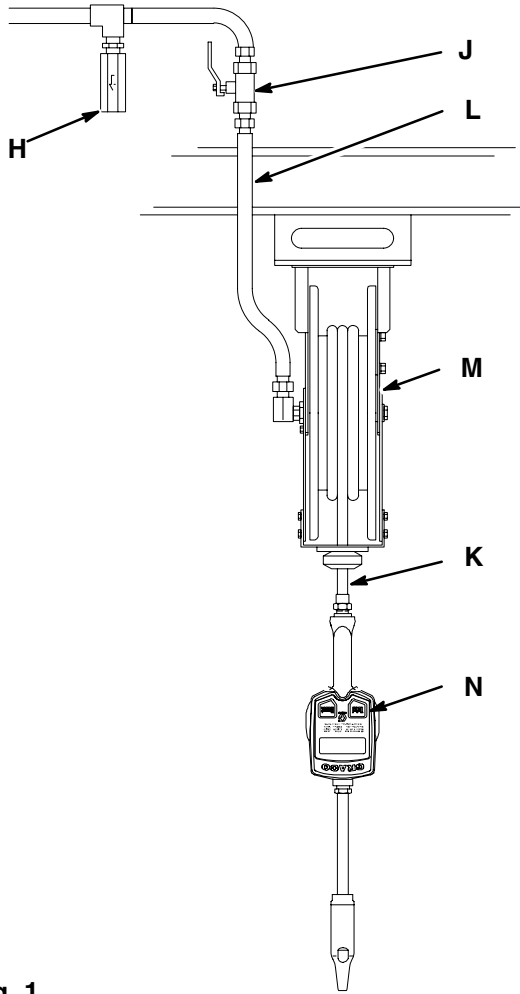
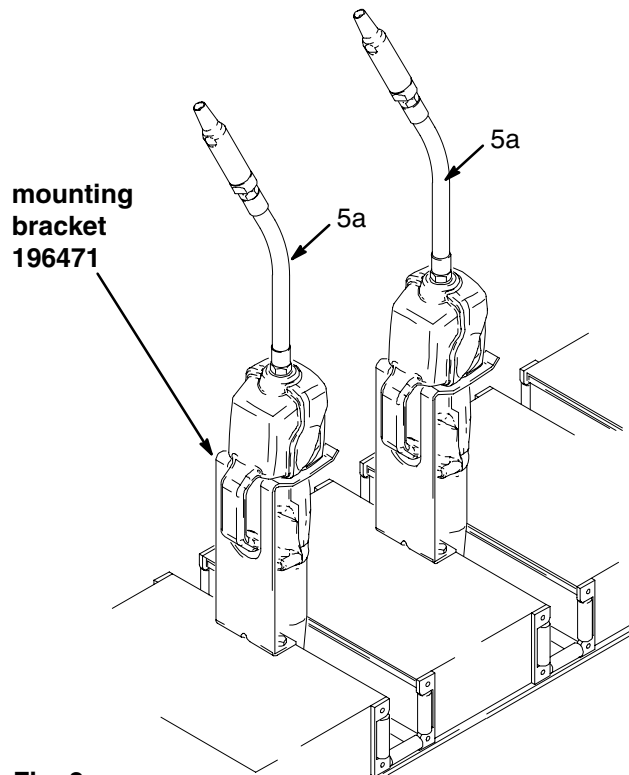

Fig. 1 TI0268
Fig. 2 TI0274
Fig. 1 shows a typical hose reel installation. Fig. 2 shows how these dispense valves can be installed on a console.
Mounting bracket 196471 is available for resting an EM5 dispense valve on a console. See Fig. 2.
3. Close the shut-off valve (item J in Fig. 1).